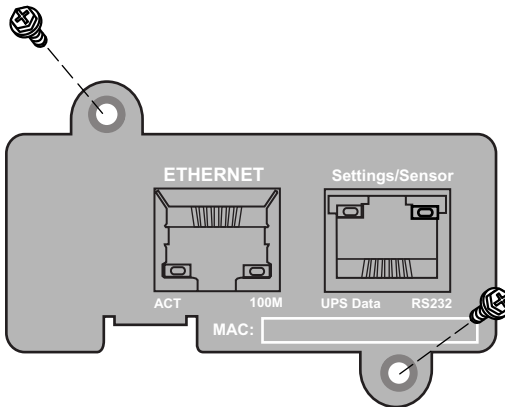

Figure 1. Installing the Card
4. Slide the card into the open slot and secure it with the screws removed in Step 1 (see Figure 1).